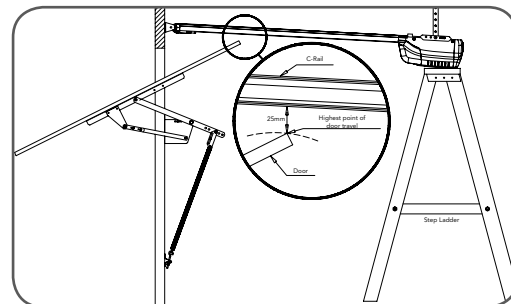

Fig 18
- Stop the door when it is at its highest point of travel. Allow 25mm additional height for clearance between the door and the track (Fig. 18).